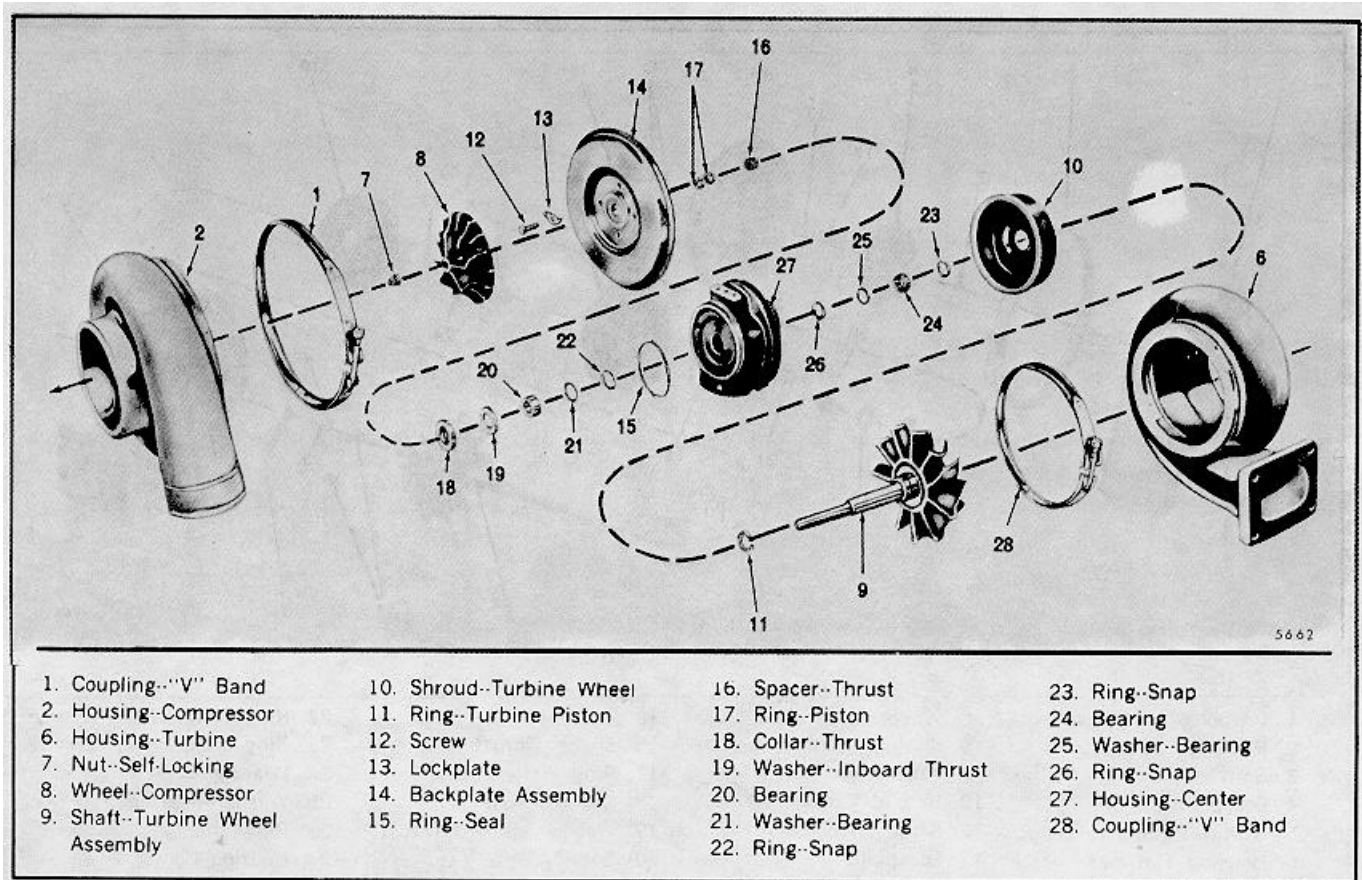

FIG. 8 - TV71 and TV81 Turbocharger Details and Relative Location of Parts
3. Position the turbine wheel (9) of the center housing assembly in a suitable holding fixture (Fig. 8). Remove the wheel nut (7) from the shaft.